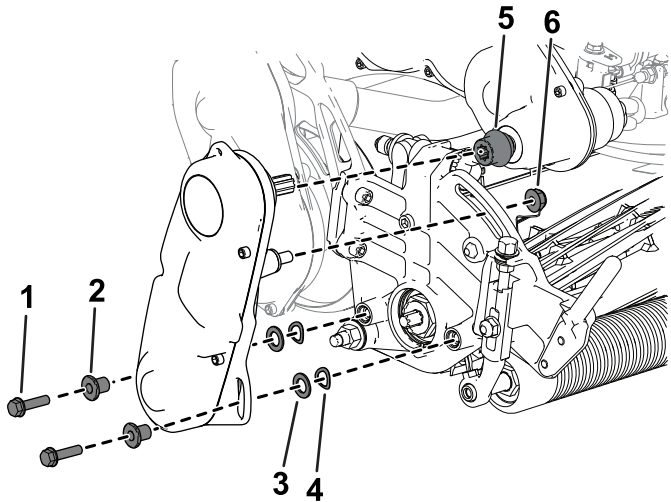

Figure 33
6. Use the previously removed socket-head screws, washers, and spacers to secure the reel-drive assembly to the cutting-unit side plate (Figure 33).
Ensure that the reel-drive-assembly driveshaft is installed to the transmission-driveshaft coupler (Figure 33).